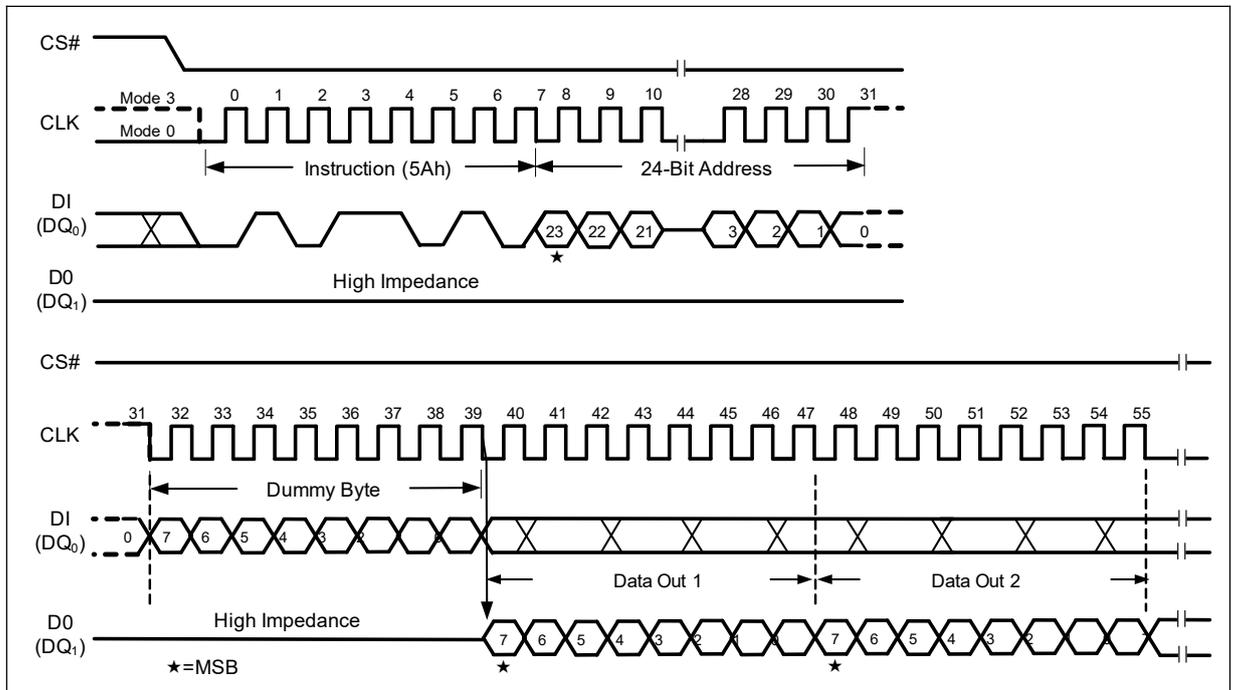

Figure 37 Read SFDP Register Instruction
The Read SFDP instruction is initiated by driving the /CS pin low and shifting the instruction code "5Ah" followed by a 24-bit address (A23-A0)(1) into the DI pin. Eight "dummy" clocks are also required before the SFDP register contents are shifted out on the falling edge of the 40th CLK with most significant bit (MSB) first as shown in Figure 37.